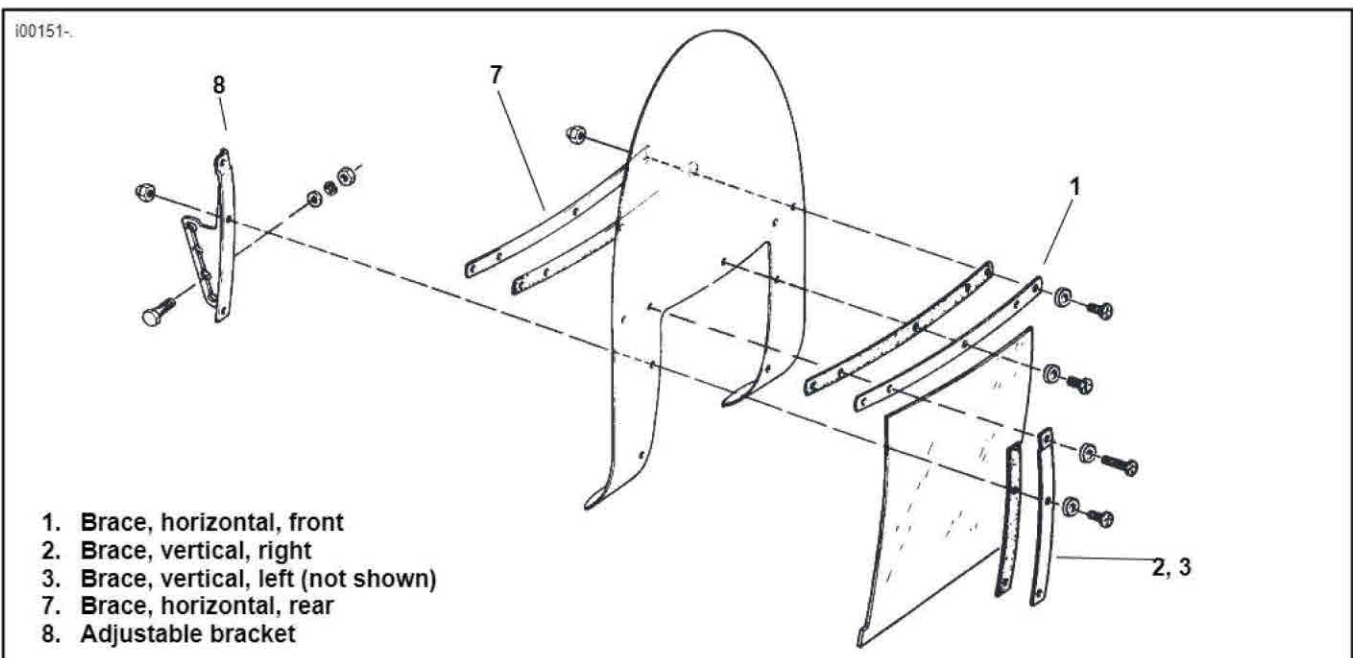

Figure 1. Windshield, Bracket Assembly
- See Figure 1. Remove windshield assembly from motorcycle.
- See Figure 1 and Service Parts Illustration on page 3. Slide five screws (4, 6) into groove in center of front horizontal brace (1). If a windshield bag is to be used, slide five screws (4,6,7) into groove in center of front horizontal brace as shown in Service Parts Illustration.
- Check that the two outer 11/16 inch L-head screws (6) are positioned with short side of head facing to the outside end of brace (1).
- Align screws in front horizontal brace (1) to holes in windshield.
7. See Figure 1 and Service Parts Illustration on page 3. Locate right hand vertical brace (2). Slide an 11/16 inch L-head screw (6), with short side of head facing lower end of brace, into groove in center of brace.
8. Slide a T-head, 3/4 in. screw (5) into brace (2). Align screws in vertical brace with holes in windshield. Gently push screws through windshield and stock adjustable bracket (8).
10. Repeat steps 7 through 9 for the left hand brace (3).
11. Adjust vertical braces (2, 3) until tines engage slots in horizontal brace (1).
12. If a windshield bag is to be used, attach the windshield bag to the center horizontal screw (7).